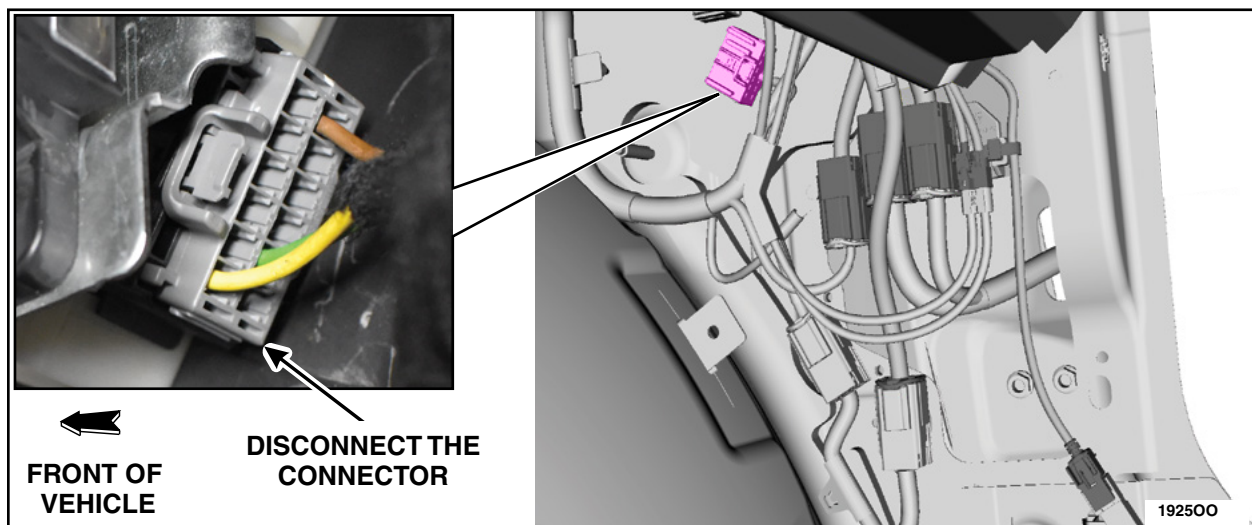

FIGURE 29
31. Locate connector C2498C (Trailer Tow module, Grey color housing) behind passenger side kick panel. See Figure 29.